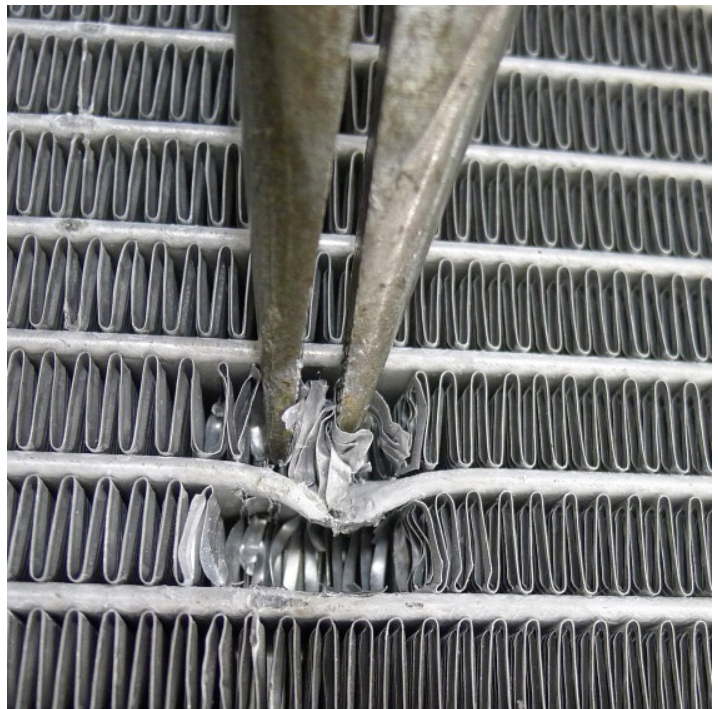

Figure 4. Micro-Channel Damage Removal
1. If the leak is located in the coil fin area as shown in Figure 3, remove small amount of fin stock with needle nose pliers. See Figure 4.